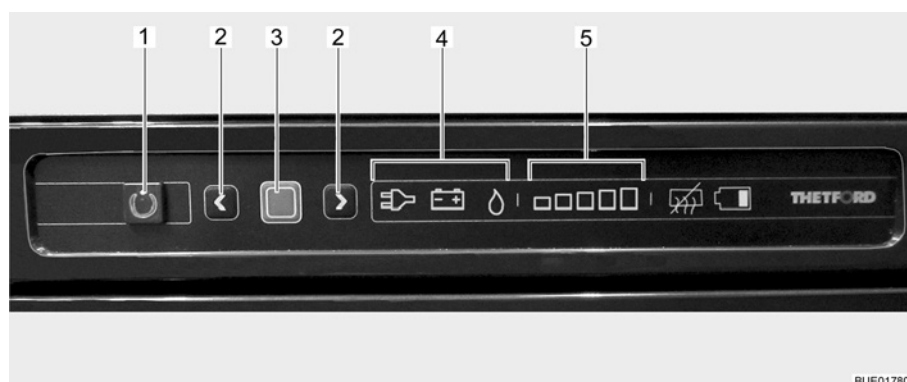

Fig. 97 Operating controls for the refrigerator
The current operating mode is indicated by an illuminated symbol (Fig. 97,4) on the operating unit.
When turned on the refrigerator automatically selects the thermostat position selected last. This position can be adjusted manually by using the arrow keys (Fig. 97,2). The illuminated bars of the cooling level indicator (Fig. 97,5) show the selected thermostat position. The refrigerating temperature for the three types of energy is set with the arrow keys. It takes a few hours till the refrigerator reaches its normal operating temperature. When changing over the operating mode the thermostat setting will be maintained. The refrigerating temperature is retained regardless of the type of energy being used.
- Press and hold the On/Off button (Fig. 97,1) for 1 second. Button (Fig. 97,1) lights up green. To save energy, after approximately 10 seconds the display is dimmed.
- Press and hold the confirmation button (Fig. 97,3) for about 2 seconds. The symbols for the operating modes (Fig. 97,4) are flashing.
- Press the arrow keys (Fig. 97,2) to change the operating mode.
- For gas operation, select the operating mode Gas using the arrow keys (Fig. 97,2). Gas supply is open. Ignition will take place automatically. A ticking sound can be heard until ignition has been completed successfully.
- Press confirmation button (Fig. 97,3).
- Press confirmation button (Fig. 97,3) again. The current cooling level is shown by the illuminated bars (Fig. 97,5).
- To change the setting, press the arrow keys (Fig. 97,2) until the desired setting is displayed.
- Press and hold the On/Off button (Fig. 97,1) for about 2 seconds. All lights go out. Refrigerator is switched off.